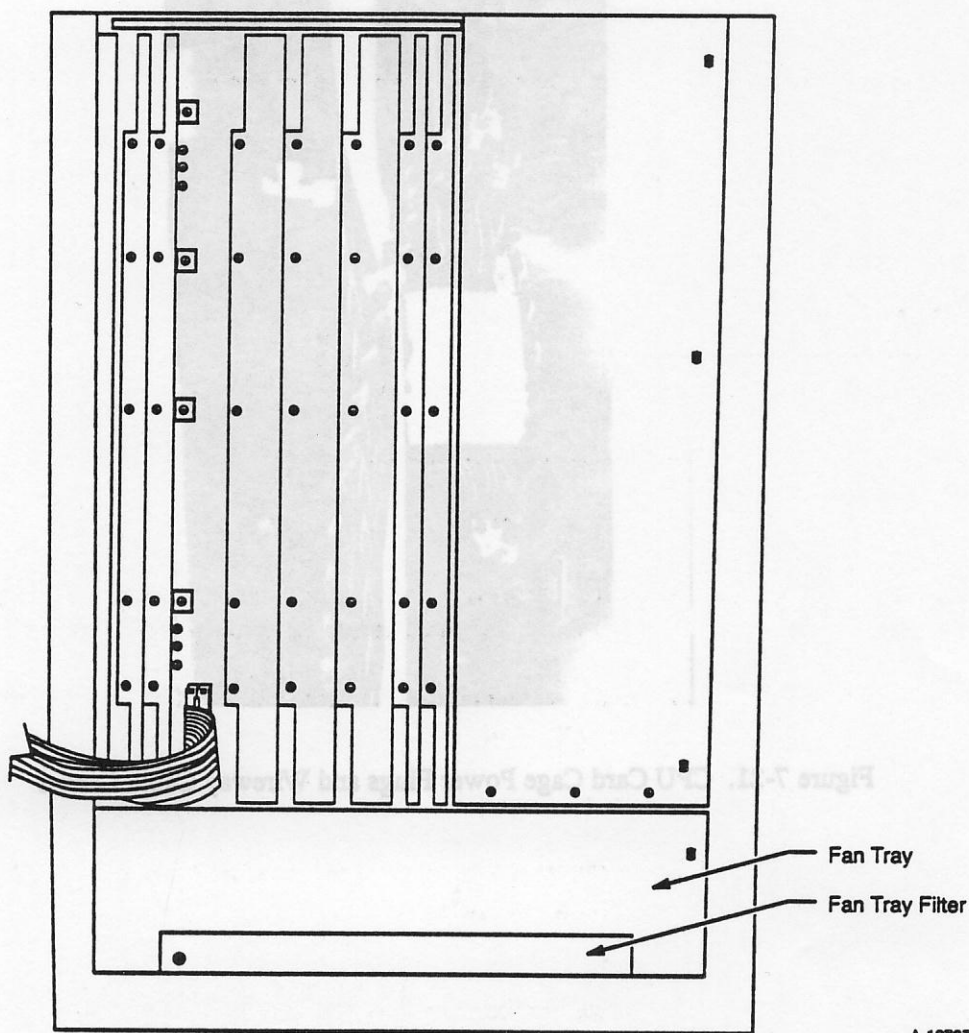

Figure 7-20. CPU Card Cage
5. Remove the ten screws on the CPU card cage. Refer to Figure 7-20.
6. Remove the filter in the lower fan tray. Refer to Figure 7-20.
7. Remove the lower fan tray in the bottom of the CPU card cage as shown in Figure 7-20.